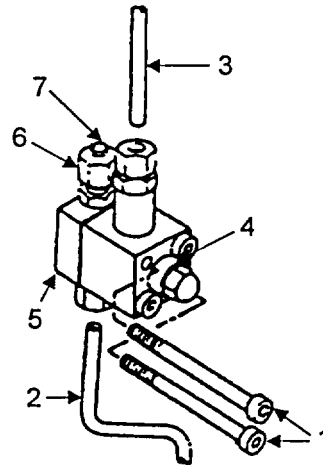

Figure 4-7. Oil Pressure Regulator
- a. Remove inlet and return oil lines (Figure 4-7, Items 2 and 3). Cap or plug open ends to prevent contamination of the oil system
- b. Remove mounting socket head cap screws (1) and remove the regulator (4) and O-ring (8).